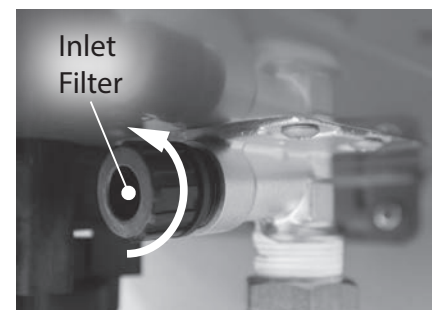

Figure 131 - Removing the inlet filter
- 8 Locate and remove the inlet filter as shown in Figure 131 to drain any residual water left in the system. Place a bucket or pan underneath inlet filter to collect water during removal.